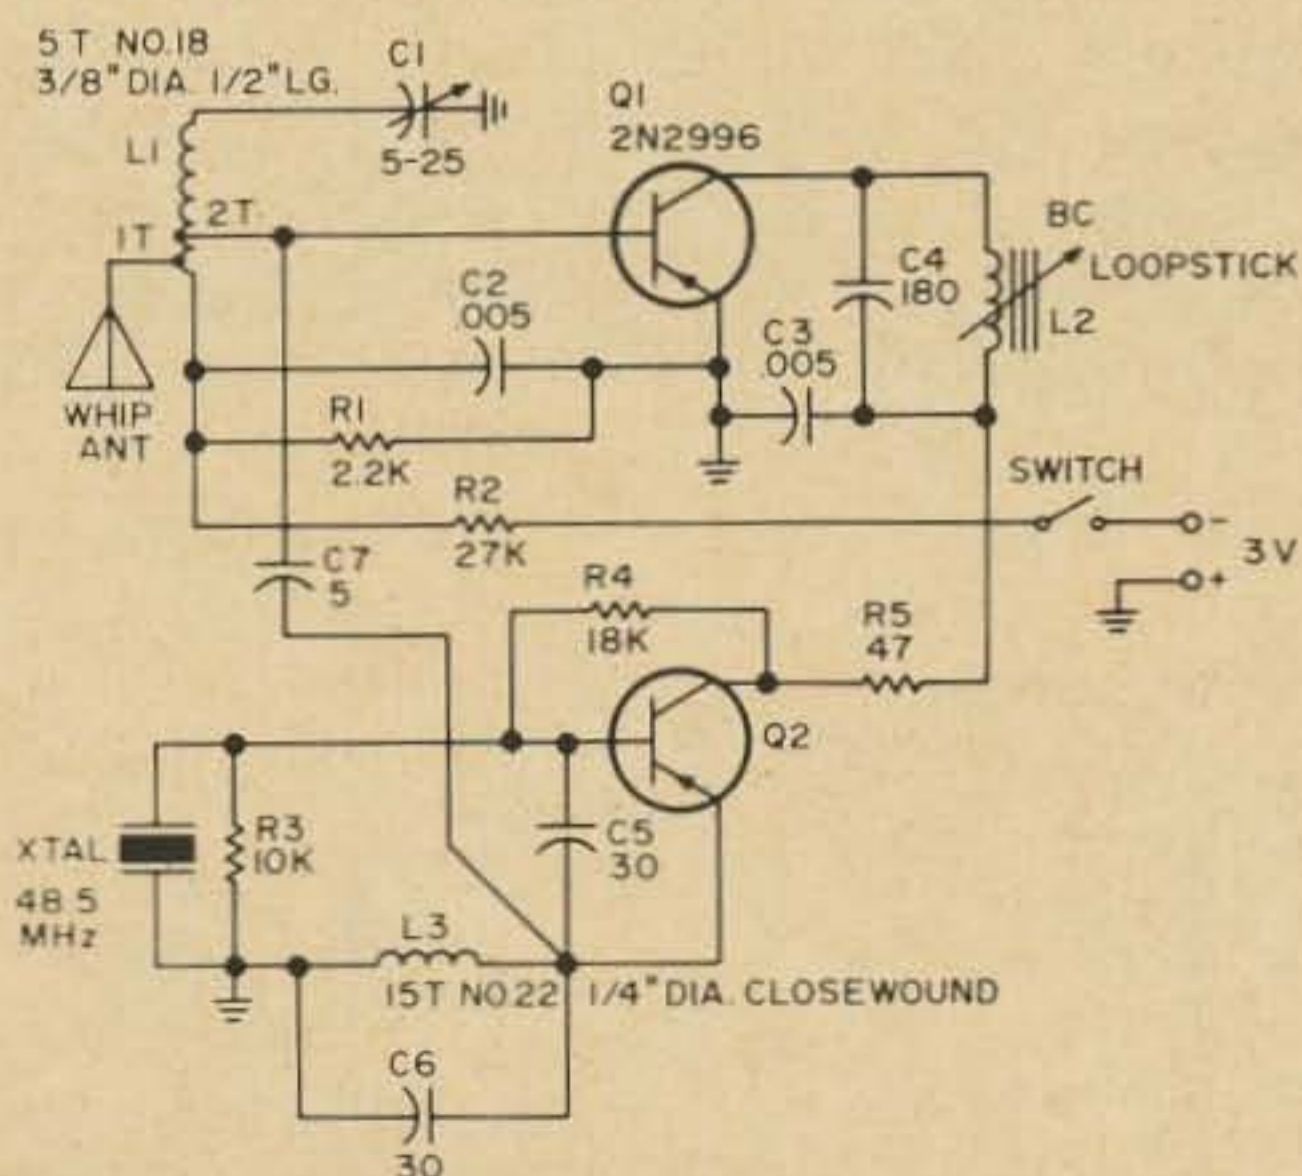

Fig. 2. Schematic of converter for 2M FM repeaters. Or anything else on 2M for that matter.
This thought led me to recall the old two tube blooper that started me on my radio career circa 1932. It had a VT224 as a detector and regeneration was controlled with a variable capacitor. From that point the circuit shown in Fig. 2 evolved. I used a TIS-34 FET because: (1) I had some on the shelf; (2) a FET acts like a screen grid tube (with poor screening). Any FET which will oscillate on the desired frequency will work in the same circuit (keep the N-Channels and the P-Channels straight).